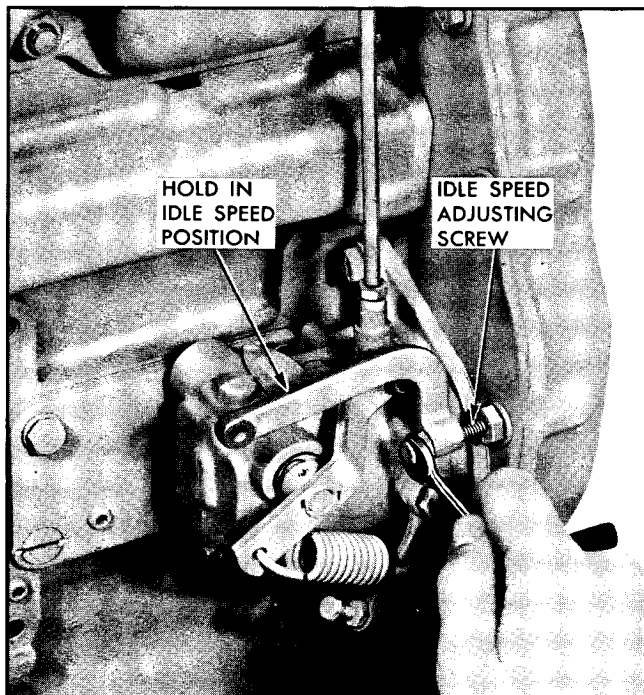

Fig. 3 - Adjusting Idle Speed
2. Start engine and adjust idle speed adjusting screw, Fig. 3, to obtain the desired idle speed.